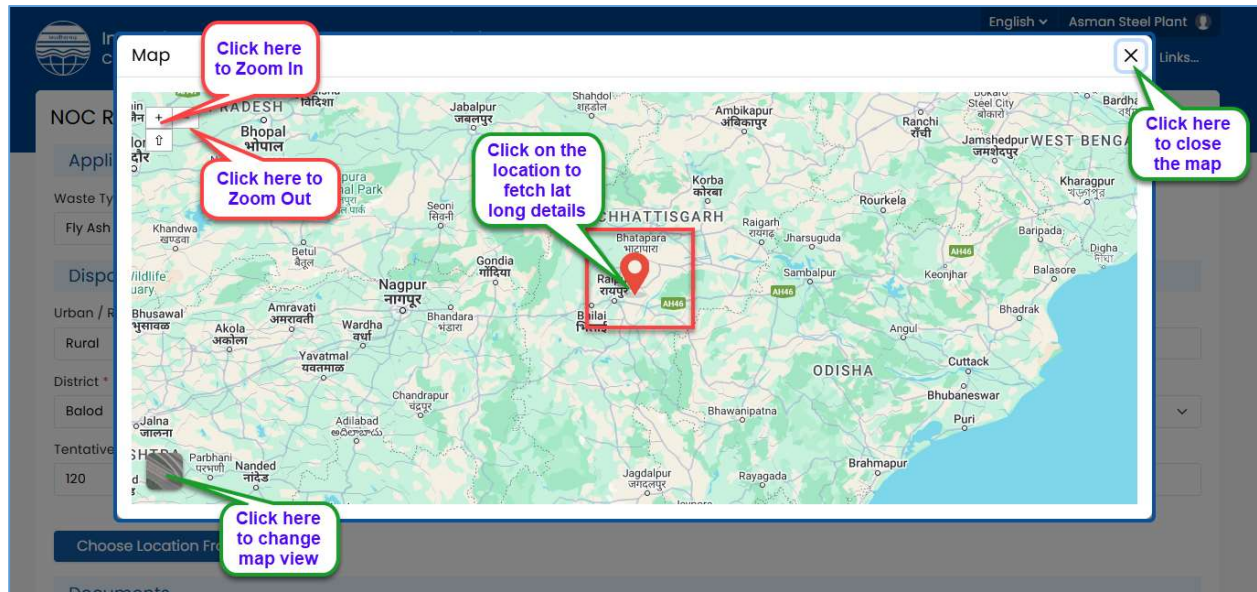

Figure 4-3 Map Screen
- To fetch the Lat-Long details, click on the location in the map as displayed in **Fig 4-3**.